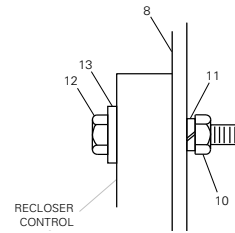

Figure 18. Hardware assembly for mounting the control (Substation Frame Accessory KA89VV10).
1. From the top of Item 8, locate the seventh hole and loosely install one cap screw (Item 12), one flat washer (Item 13), one lockwasher (Item 11), and one locknut (Item 10) as shown in Figure 18.
3. Secure the bottom of the control cabinet using the same hardware combination (Figure 18).
1. From the top of Item 8, locate the first hole and loosely install one cap screw (Item 12), one flat washer (Item 13), one lockwasher (Item 11), and one locknut (Item 10) as shown in Figure 18.